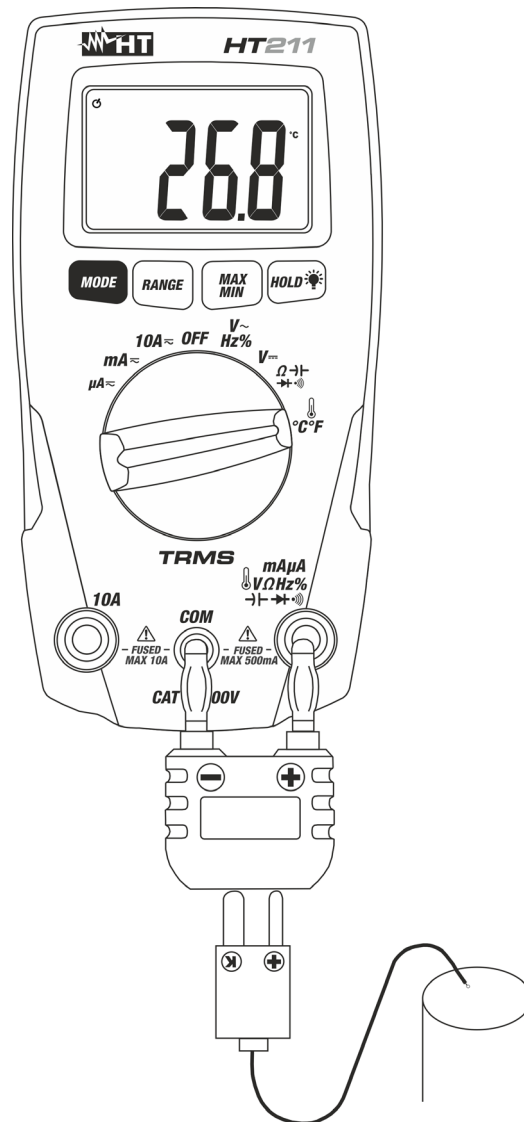

Fig. 8: Using the instrument for Temperature measurement
3. Insert the standard adapter accessory into mA μA V Ω Hz % jack (+ polarity), and **COM** jack (- polarity) (see Fig. 8)